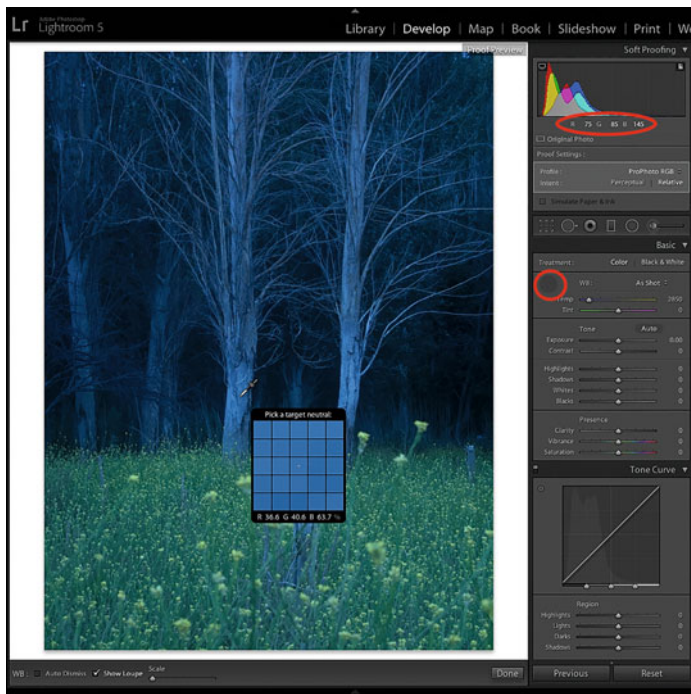

FIGURE 7.29 Raw uncorrected image with White Balance Selector tool in Lightroom before clicking on neutral tree bark, resulting in Figure 7-30.
The first adjustment we encounter in Lightroom and Adobe Camera Raw is **White Balance (WB)**. Raw digital camera files will typically come in with a **White Balance** defined by the camera. You might have your camera set to a standard **WB** setting like tungsten, daylight, overcast, flash, or fluorescent; set to a defined white point color temperature like 5400 Kelvin (K); or set to a custom white point measured under a specific light source. If the light source you photograph under and the defined white point in the camera do not match up, you will get a colorcast. Neutrals will not be neutral. In the case of the Raw image we are now very familiar with in Figure 7.29, the color temperature of the white balance has been defined as 2850 K by the camera. This is much too low, considering the shot was made under daylight. This is why the image appears very blue.
You can either manually use the sliders for Temp and Tint or you can use the White Balance Selector tool by clicking on the eye dropper or pressing **W** on your keyboard. You then move the **White Balance Selector** and click on a point in your image you wish to be neutral, as seen in Figure 7.29. This results in Lightroom finding the